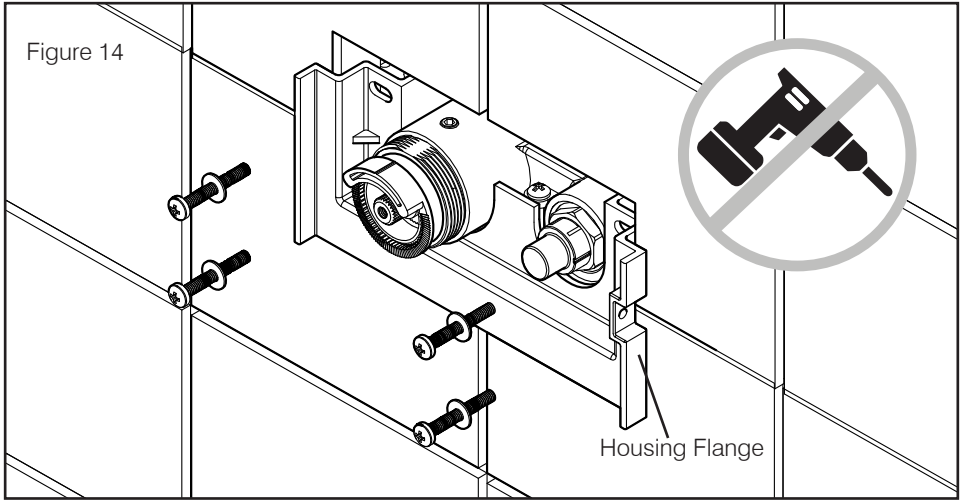

Figure 14
12. Lift the valve and push the hoses back through the access hole, making sure the hoses do not kink (Figure 14). Position the valve flat against the tiles and line up the fixing holes with those on the metal installation frame. Secure the valve to the fixing frame.